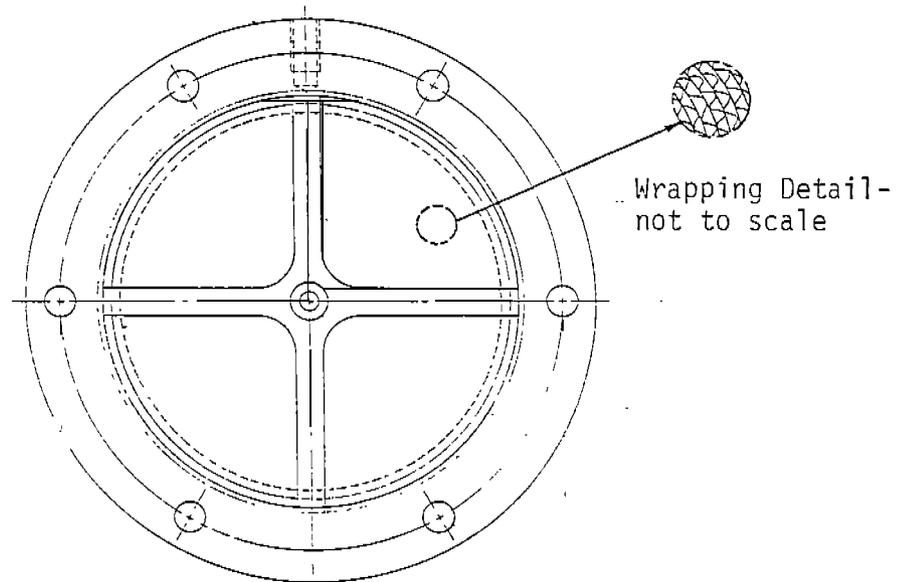

Figure 3. Intake Flame Arrester
6. ( ) Remove the Flame Arrester. The Intake Flame Arrester is shown in Figure 3. The Flame Arrester core is clean and has no apparent damage.